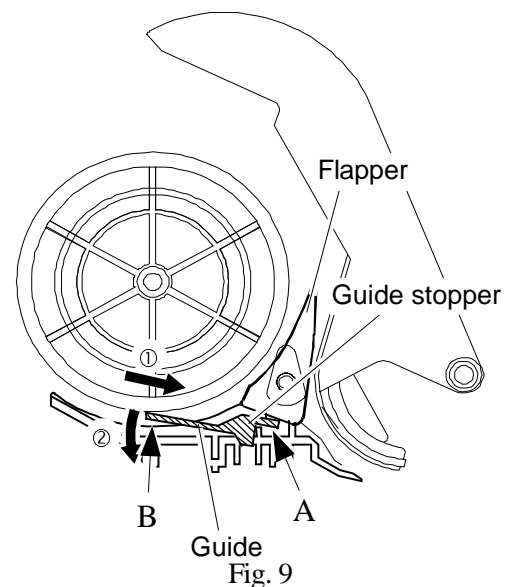

Fig. 9
- While taking care that the side A of the guide stopper does not rise causing the guide stopper tape and the guide to make contact, pass the side B of the guide stopper through the space between the flapper and the guide, pushing it in the direction of the arrow 1 (Fig. 9) until it stops. After this, slowly lay the side A onto the guide.